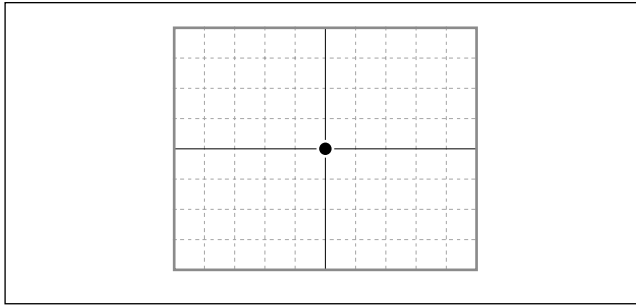

Fig. 4-3
- ③ Set the TIME/DIV switch of the oscilloscope to the X-Y mode.
- ④ Set the deviation sensitivity (VOLTS/DIV) of CH1 and CH2 of the oscilloscope to 500 mV/DIV.
- ⑤ Set the input coupling switches of CH1 and CH2 of the oscilloscope to DC.
- ⑥ Set the offset of CH1 and CH2 of the oscilloscope to 1.3 V. (Fig. 4-3)